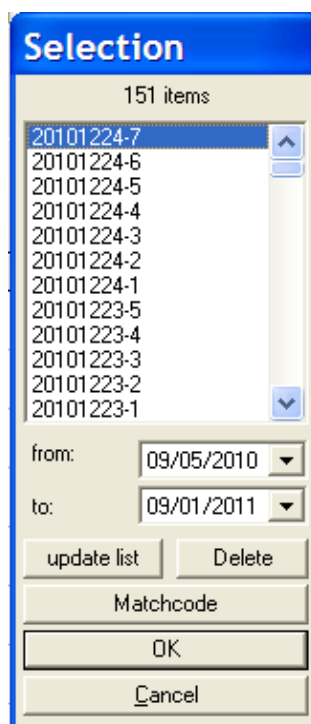

Figure 7-1: Selection – saved Quick measurements
1. From the Database menu, select **Open Saved Plate**. Selection appears (Figure 7-1).